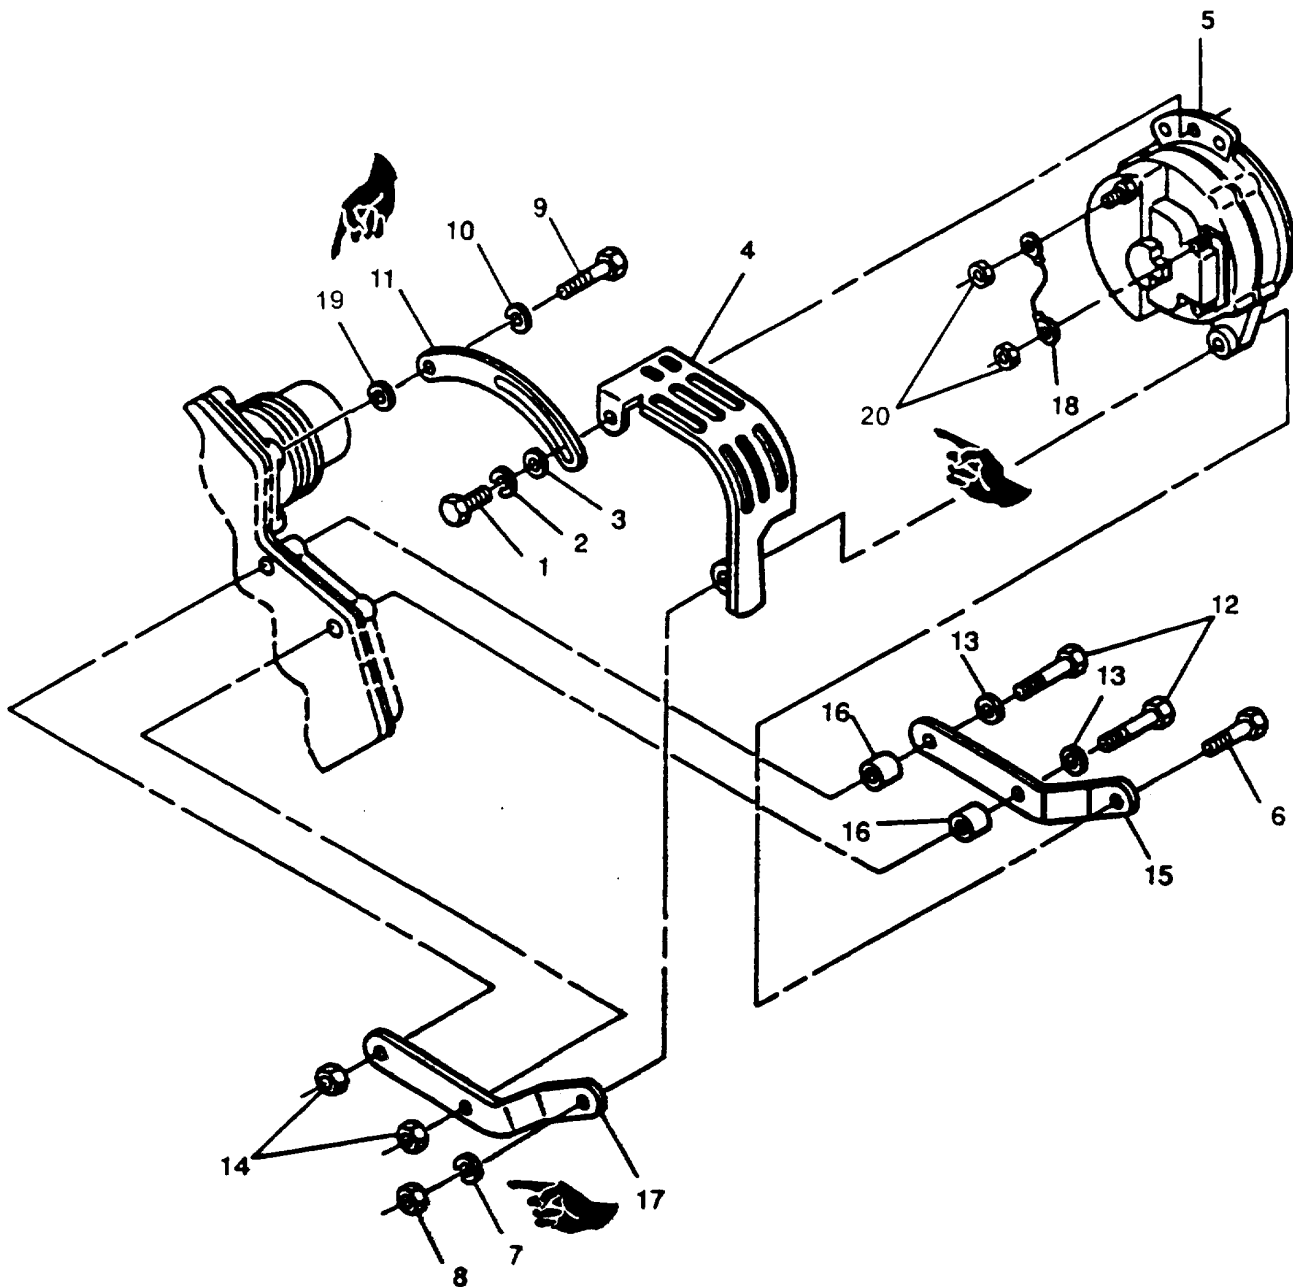

FIGURE 3-5. Battery Charging Alternator and Mounting Brackets
- c. Remove capscrew (1, FIGURE 3-5), lockwasher (2), and washer (3); securing bracket (4) and battery charging alternator (5). Discard lockwasher (2).
- d. Support weight of battery charging alternator and remove capscrew (6), lockwasher (7), and nut (8); securing bracket (4) and alternator (5). Remove bracket (4) and alternator (5). Discard lockwasher (7).
- e. If necessary, remove capscrew (9), washer (19), and lockwasher (10) securing adjusting strap (11) to water pump mounting hole. Remove adjusting strap. Discard lockwasher (10).
- f. If necessary, remove two capscrews (12), washers (13), spacers (16), and nuts (14) securing mounting brackets (15 and 17). Remove brackets (15 and 17).
- g. If necessary, loosen and remove nuts (20) from terminals POS plus OUTPUT and SEN. Remove jumper wire (18).
- g. If damaged, replace retainer (21) in rear housing (20).
- h. Position rear housing (20) over slip rings of rotor assembly (29) with front and rear housing bolt holes aligned and stator leads extending through openings at top of rear housing (20).
- i. Install through bolts (19) and tighten evenly 50 to 60 in-lbs (5.65 to 6.78 Nm).
- j. If necessary, remove through bolts (19) and (20) and stator (22) to align housings as match marked on disassembly. Reinstall bolts and torque evenly 50 to 60 in-lbs (5.65 to 6.78 Nm).
- k. Insert strap (14) of rectifier bridge (18) through slot in diode-trio (17) body. Bend strap (14) over B+ terminal and secure with cone washer (13) and nut (12).
- l. Apply thin film of heat sink compound (5202217) to back of rectifier bridge (18) and mating area of rear housing (20)
- m. Install diode-trio (17) and rectifier bridge (18) on rear housing (20) with bolts (16) and connect stator leads with screws (15). Remove tags.
- n. Install voltage regulator (11) to rear housing (20) with insulating washers (10) and bolts (9).
- o. Install brush assembly (8) and strap (7) with nuts (6) and washer (33).
- p. Position felt gasket (5) in back cover (4) and install back cover on rear housing (20) with bolts (3).
- q. Install terminal washers (2), terminal nuts (1), and jumper (18, FIGURE 3-5).
- (1) Mount battery charging alternator on test fixture capable of providing 5000 alternator rpm.
- a. If removed, install jumper wire (18, FIGURE 3-5) and nuts (20).
- b. If removed, position mounting brackets (15 and 17) on timing gear cover mounting holes; secure with two capscrews (12), washers (13), spacers (16), and nuts (14).
- c. If removed, position adjusting strap (11) on water pump mounting hole; secure with capscrew (9), washer (19), and new lockwasher (10).
- d. Position battery charging alternator (5) and bracket (4) between mounting brackets (15 and 17) and secure with capscrew (6), new lockwasher (7), and nut (8). Do not tighten.
- e. Secure battery charging alternator (5) and bracket (4) to adjusting strap (11) with capscrew (1), new lockwasher (2), and washer (3). Do not tighten.